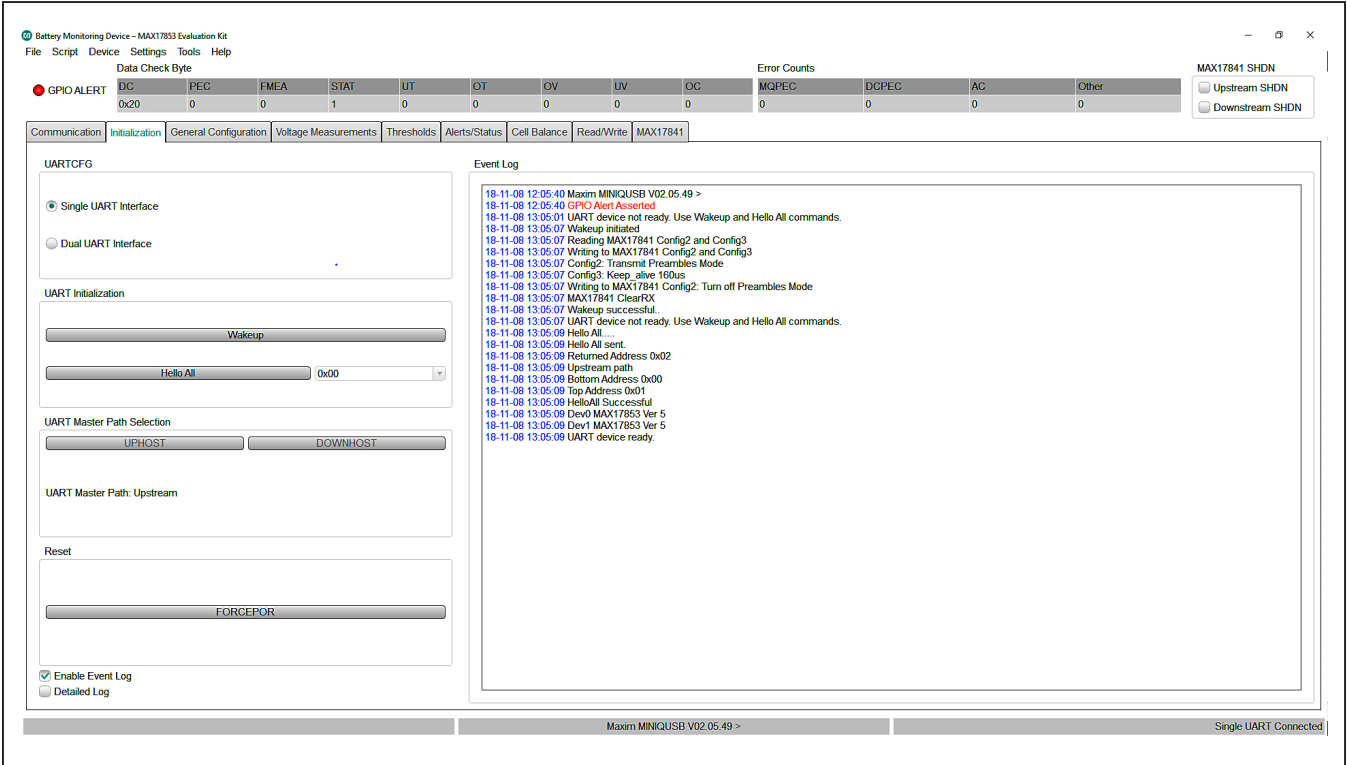
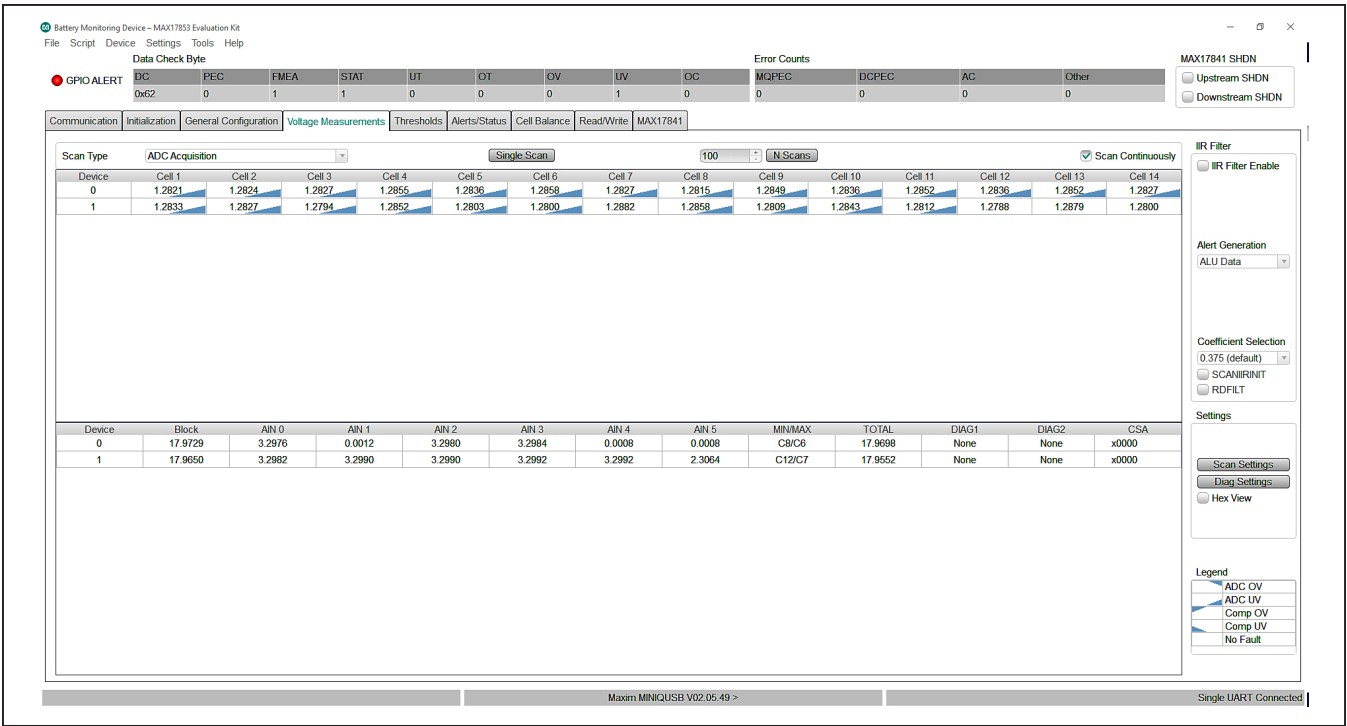
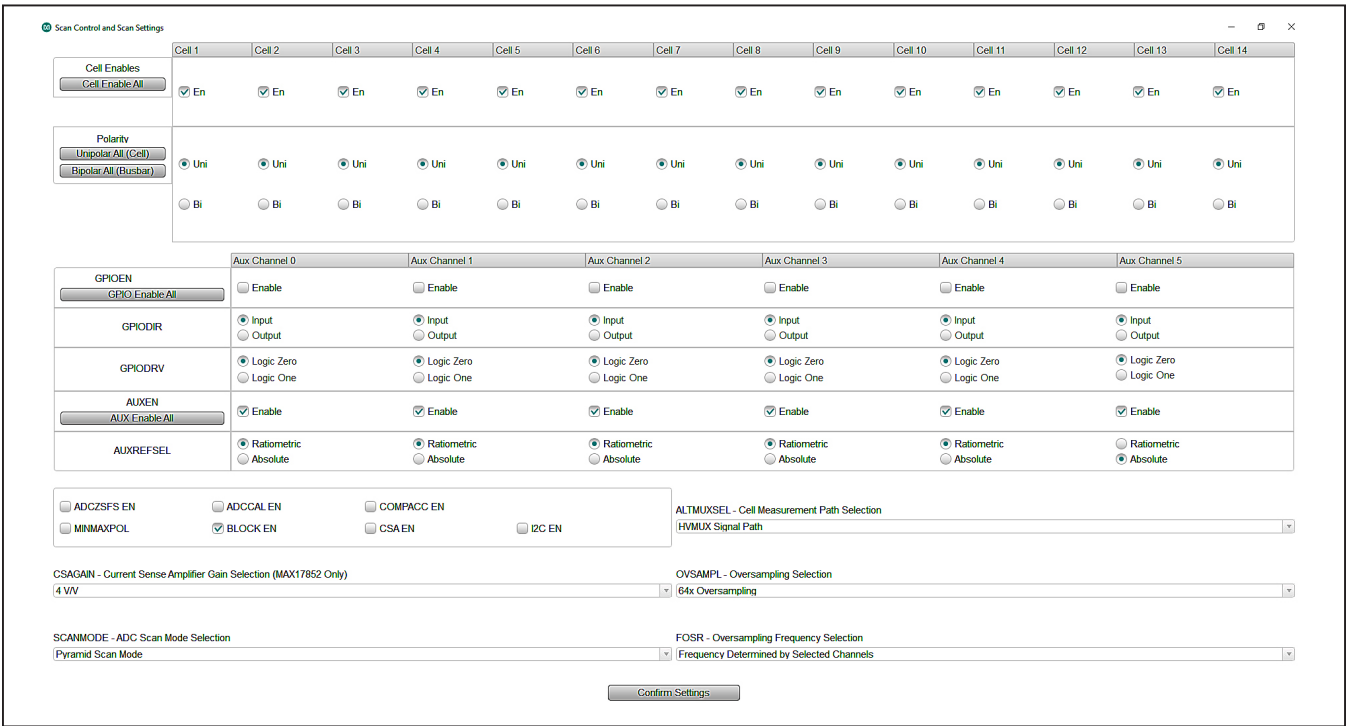
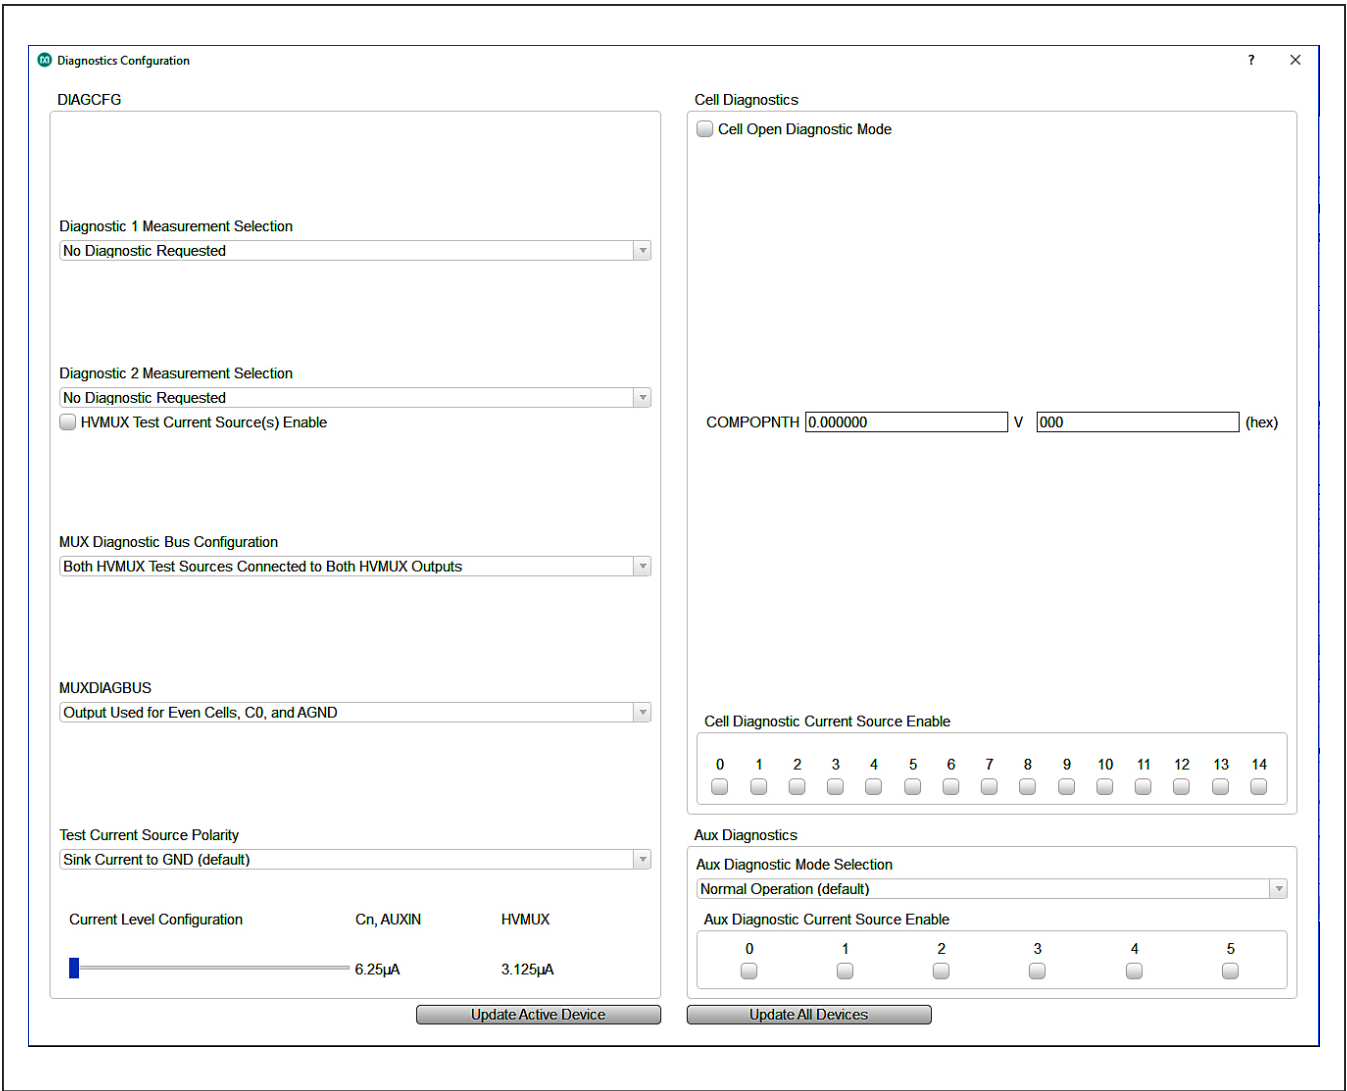

Figure 13. Initialization Tab
Figure 15. Voltage Measurements Tab
Figure 16. Scan Settings Panel
Figure 17. Diagnostic Settings Panel
- 14) Select the **Initialization** tab (Figure 13).
The **Initialization** tab (see Figure 13) is used to initialize the system and assign addresses to each device in the daisy-chain. The correct **Single UART Interface** or **Dual UART Interface** radio button must be selected for the hardwired system. Communication is only established when the wired system aligns with the interface chosen from the **UARTCFG** group box. With the **Dual UART Interface** radio button selected, the user has the option of selecting **UPHOST** or **DOWNHOST**. Further information on UPHOST and DOWNHOST communication is available in the MAX17852 IC data sheet. The **Wakeup** button initiates the communication process and the **Hello All** button assigns the device addresses. Along with establishing communication, the **Initialization** tab provides a method to log detailed communication events. The event and detailed logs can be enabled or
The **Voltage Measurements** tab (see Figure 15) is the user interface for visually monitoring all cell measurement and AUX conversion values in the battery monitoring system. In addition, the **Voltage Measurements** tab can be constructed to display a visual indication of cell ADC OV/UV, comparator OV/UV, and communication alerts.
In the **Voltage Measurements** tab, the **Scan Settings** and **Diag Settings** buttons in the **Settings** group box on the right side of the GUI open into individual settings panels (see Figure 16 and Figure 17).
Before running scripts, follow the Quick Start \(Single UART\) section. **HelloAll Successful** and **UART device ready** response must be displayed in the **Event Log** on the **Initialization** tab (Figure 13). Set the PCB resistor ladder DIP switches (SW1, SW2) to the ON position (closed). Verify P+B14 and B0P- jumpers are installed. Select the **Voltage Measurements** tab (Figure 15) and click on the **Scan Settings** button in the **Settings** group box to open the **Scan Settings** panel (Figure 16). Select **Cell Enable All** and click **Confirm Settings** at the bottom of the panel. Back in the **Voltage Measurements** tab, click on the **Scan Continuously** checkbox. Figure 26 shows a sample script that programs the cell overvoltage to 1.099V and the undervoltage to 0.9V.
The following procedure describes how to use the GUI and EV kit to make **Cell Voltage** measurements and observe measurement and comparator OV/UV alerts in the **Voltage Measurements** tab (Figure 15).
- 1) Set up hardware and run GUI according to the Quick Start \(Single UART\) section. **HelloAll Successful** and **UART device ready** response must be displayed in the **Event Log** on the **Initialization** tab (Figure 13). Be sure to set the supply voltage to 18.0V for this procedure.
- 3) Select the **Voltage Measurements** tab (Figure 15) and click on the **Scan Settings** button in the **Settings** group box to open the **Scan Settings** panel (Figure 16). First click the **Cell Enable All**, **Unipolar All (Cell)**, **BLOCK EN** checkboxes, and select **64x OVSAMPL** from the OVSAMPL a drop-down list at the bottom of the panel, and then click the **Confirm Settings** button.
- 4) Select the **Voltage Measurements** tab (Figure 15) and in the upper left corner, set the **Scan Type** to **ADC and Comparator Acquisition**, and then select the **Scan Continuously** checkbox. Observe that cell voltage levels are approximately equal in value. At this point, the MAX17852 is continuously reading the voltages across each of the 2kΩ resistors in the resistor ladder. Increasing the power-supply voltage increases the voltage across each of the 2kΩ resistors in the ladder.
- 7) Select the **Voltage Measurements** tab (Figure 15). Verify that voltage measurements are approximately 1.28V and no OV/UV voltage measurements or OV/UV comparator measurements are indicated. Slowly increase the power-supply voltage from 18.0V to 22.0V. Verify that OV voltage and comparator measurements are detected at the user-programmed OV thresholds by comparing the triangular indicator with the **Legend** on the lower right side of the window. The UV voltage and comparator measurements can be verified similarly by decreasing the supply voltage from 18.0V to 14.0V.
- 1) From the **Voltage Measurements** tab (Figure 15), in the **IIR Filter** group box, click on the **IIR Filter Enable** checkbox.
- 3) To see the dynamic effect of the IIR filter, set the **OVSAMPL** drop-down list in the **Scan Settings** panel (Figure 16) to **Single Acquisition**, and click the **Confirm Settings** button.
- 3) Select the **Voltage Measurements** tab (Figure 13) and click on the **Scan Settings** button in the **Settings** group box to open the **Scan Settings** panel (Figure 16). Click the **GPIO Enable All** button and set the **GPIODIR** to Output. Set the **GPIODRV** to the desired high or low level.